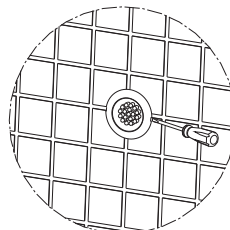

Figure 6
- 6) Remove and replace of water light, simply use a flathead screwdriver from the side to eject. (Figure 6)